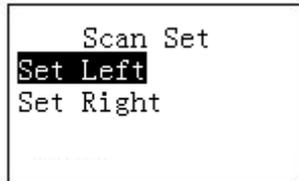

Figure 4-5
b) Select Set and then click **【ENTER】**, you can see an interface shown as in Figure 4-5.